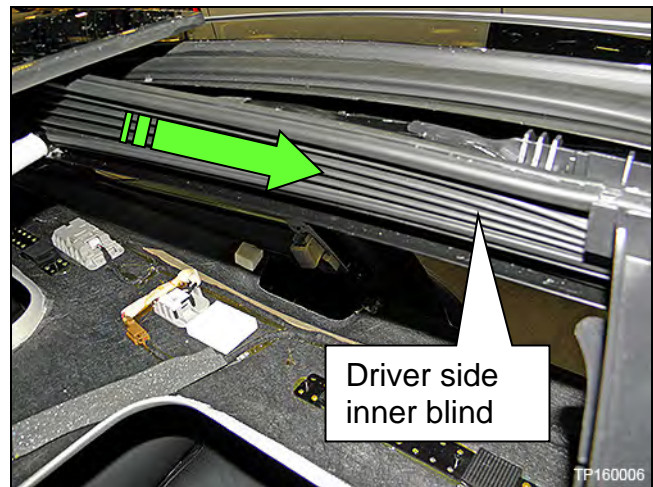

Figure 16
- e. Slide each inner blind toward the front of the vehicle and off of the moonroof guides (Figure 16).
NOTE: Figure 16 is shown from inside the vehicle.